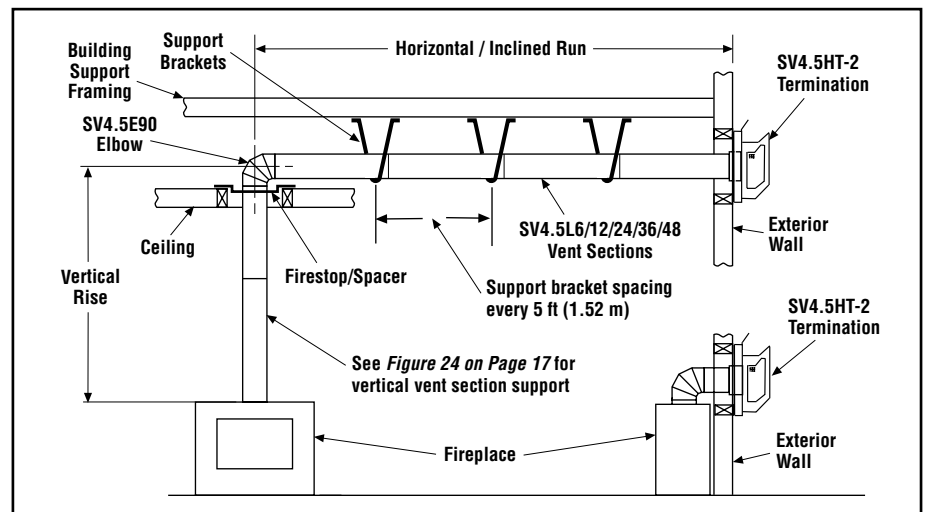

Figure 35 - Typical Horizontal Vent Installation
Figures 35, and Figures 38-44 on Pages 23-25 and their associated Horizontal Vent Table illustrate the various horizontal venting configurations that are possible for use with these appliances. **Secure Vent®** pipe applications are shown in these figures; **Secure Flex®** pipe may also be used. A Horizontal Vent Table summarizes each system's minimum and maximum vertical and horizontal length values that can be used to design and install the vent components in a variety of applications.
I. Continue installation of horizontal/inclined sections - Continue with the installation of the straight vent sections in horizontal/inclined run as described in **Step E**. Install support straps every 5 ft. (1.52 m) along horizontal/inclined vent runs using conventional plumber's tape. See **Figure 35**. **It is very important that the horizontal/inclined run be maintained in a straight (no dips), slightly elevated plane. The recommended incline is approximately 1/4" per foot (20 mm per meter) horizontal, in a direction away from the fireplace. The rise per foot run ratios that are smaller are acceptable all the way down to at or near level.** Use a carpenter's level to measure from a constant surface and adjust the support straps as necessary.